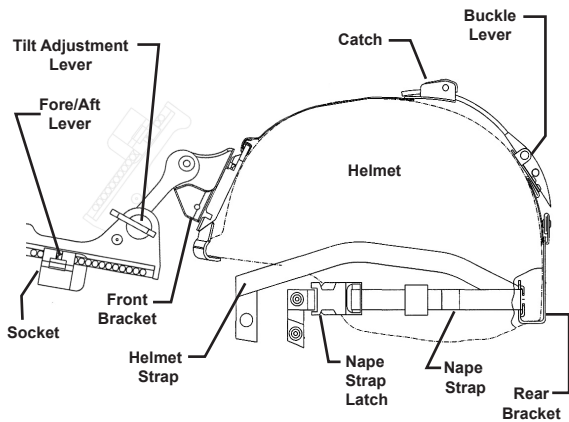

Figure 4-6. Helmet Mount Features
2. With the catch in forward most position, place the strap over the top of the helmet, center and hook the rear bracket onto the rear of the helmet. Center the front bracket, hook in on the front of the helmet and hold it in place. (See Figure 4-6.)